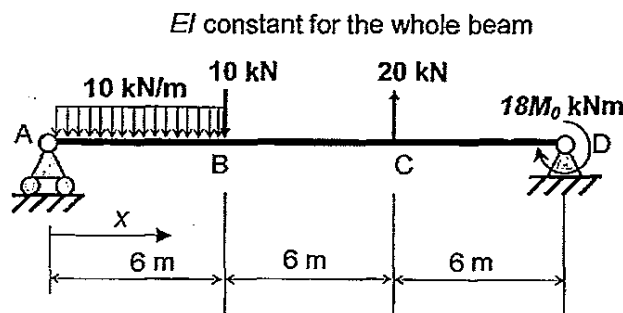

Figure Q3(a)
- (b) A simply supported beam ABC with constant $EI = 9,000 \text{ kNm}^2$ is shown in Figure Q3(b). An anti-clockwise point moment of 20 kNm is applied at end A while an anti-clockwise point moment of 10 kNm is applied at end C. By using the **Moment Area Method**, compute the rotation at A and the deflection at B.